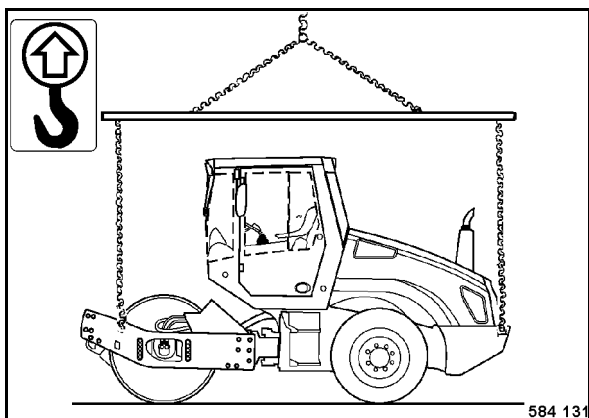

Fig. 118
- For lifting use the four lifting eyes (Fig. 118) and appropriate lifting gear.